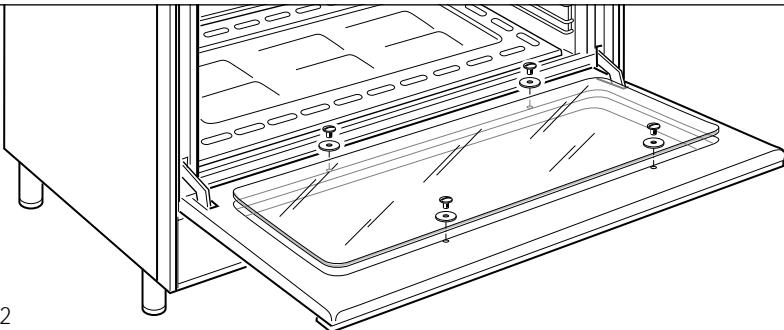

Fig. 12
- The inner glass door panel can easily be removed for cleaning by unscrewing the four screws (fig. 12).